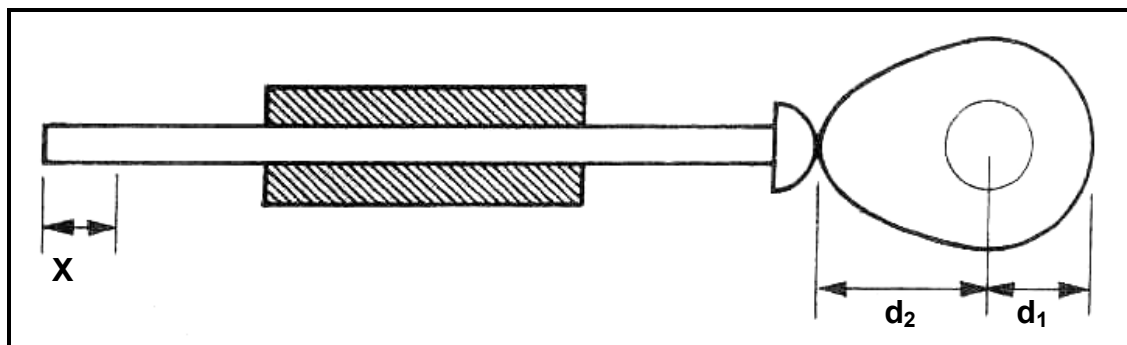

FIGURE 1.3
- D ISO Metric screw thread (1)
- 1.18 What is the stroke length (**X**) moved by the follower for the pear-shaped cam shown in FIGURE 1.3 below, given that $d_1 = 6$ mm and $d_2 = 12$ mm?